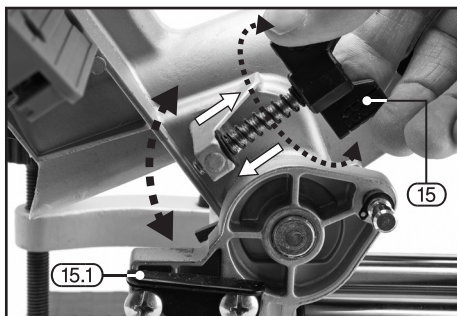

FIG. 13
8.14 DEPTH OF CUT STOP – FIG.13